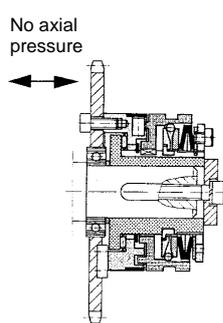

Fig. 4
- ❑ Install the clutch axially backlash-free, e.g. using a press cover (Fig. 4) (because of the limit switch accuracy).
- ❑ Do not place axial pressure onto the clutch, e.g. using an offset chain hoist or axial bracing during installation of the drive element (Fig. 4).